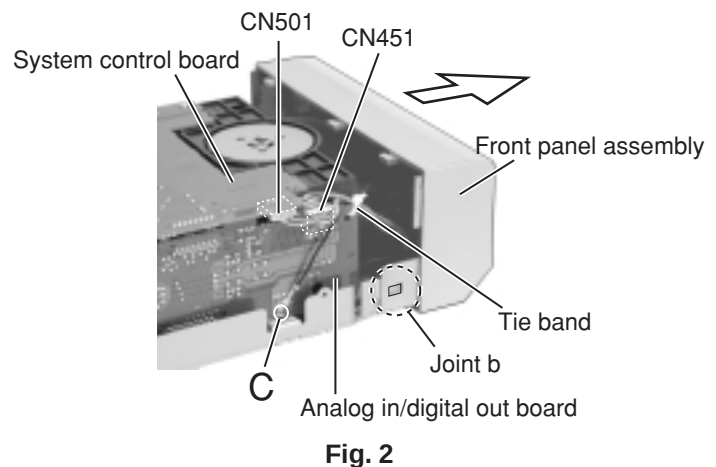

Fig. 2
■Removing the front panel assembly (See Fig.2 to 4)